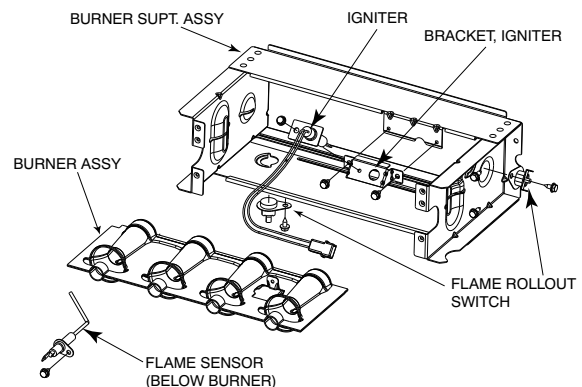
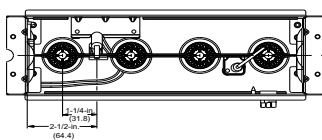
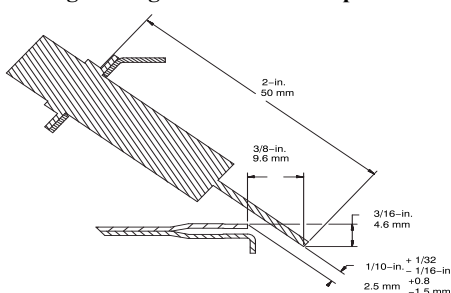

Fig. 68 – Burner Assembly
Fig. 69 – Igniter Position - Top View
Fig. 70 – Igniter Position - Side View
Refer to Fig. 68.
- Check the igniter alignment. See Fig. 68, Fig. 69, and Fig. 70.
The igniter does **NOT** require annual inspection. Check igniter resistance before removal. Refer to Fig. 68, Fig. 69, and Fig. 70.
- Using a 1/4-in. driver, remove the two screws securing the igniter mounting bracket to the burner assembly See Fig. 68.
- To replace igniter and bracket assembly, reverse items 5a through 5d.
- Reconnect igniter harness to the igniter, dressing the igniter wires to ensure there is no tension on the igniter itself. See Fig. 68.